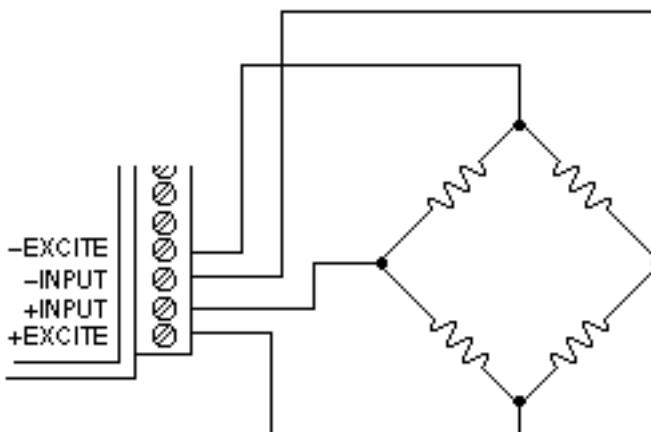
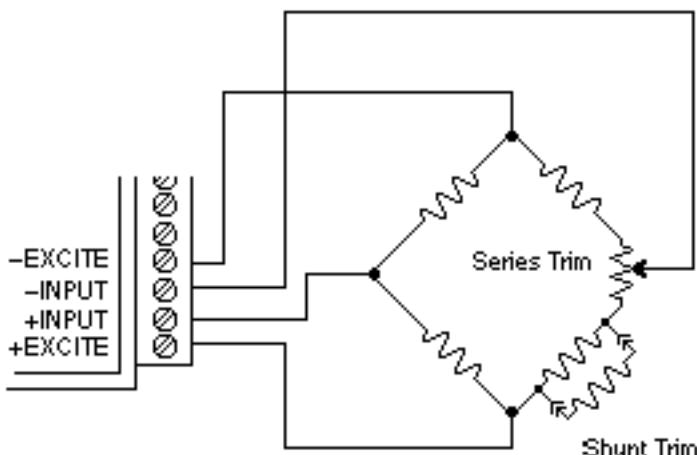

Figure D-1 Bridge Circuit Wiring
Figure D-2 Bridge Circuit Trim
To perform an initial offset trim, attach the bridge unit to the module (as shown in Figure D-1). Clear out any previous offset trims with the Clear Zero (CZ) command. Apply the desired zero condition to the bridge sensor. For a Strain Gage Bridge this would be the relaxed or unstrained condition. For loadcells, the zero condition could include any tare weight due to a weighing platform or other attachments that would affect the zero balance. Obtain an initial reading using the Read Data (RD) command. The output data will indicate the total offset of the system. Subtract the offset value from the usable input range of your module, either $\pm 60\text{mV}$ or $\pm 120\text{mV}$. The result is the maximum usable "input overhead". If the overhead is not sufficient for your application, the bridge must be trimmed externally to lower the offset to an acceptable value. The bridge may be trimmed with a small series resistance or a large shunt resistance to the appropriate leg of the bridge (as shown in Figure D-2). If the initial offset is acceptable, the offset may be trimmed with the Trim Zero (TZ) command.